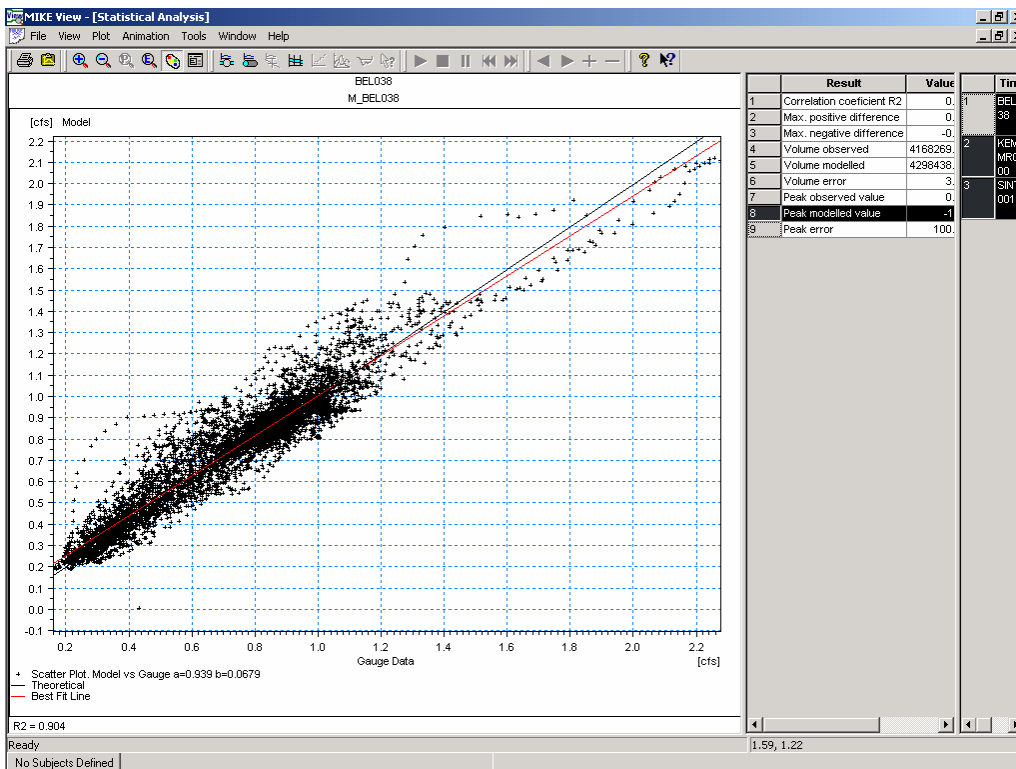

Figure 11-2 The scatter plot
The red line in the scatter plot, see Figure 11-2, is the line of best fit, and the coefficient of correlation (r^2) is calculated. The r^2 value is a measure of the degree of intensity of association between the data and the model. A high value (1) indicates that there is a very intense association, while a low value (0) indicates that there is a very low association.